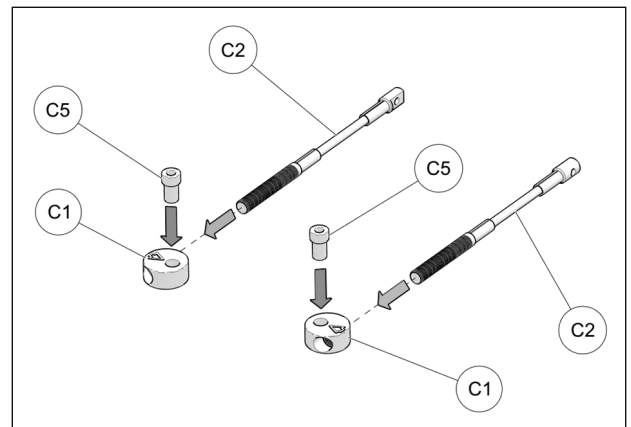

Fig. 24
14. Assemble steering limiter cables (C2), aluminum disks (C1) and step spacers (C5) as shown on Fig. 24